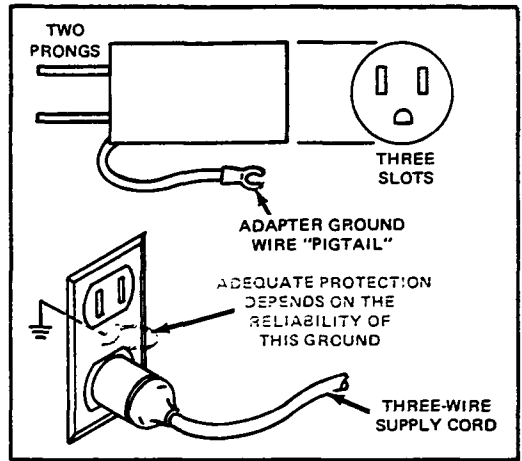

Fig. 7-10. Proper use of equipment grounding adapter.
7.40 Unfortunately, the three-wire grounding system is not foolproof because it can be ignored or evaded, and the results are accidents and injuries. A three-prong plug can be connected to a two-slot receptacle with an adapter, as shown in Fig. 7-10. The short "pigtail" wire completes the ground connection circuit. However, this pigtail is frequently ignored because it takes a little extra time and effort to connect it. Even when it is connected properly, the connection point has to be a reliable ground or protection is lost. If you use an adapter, you must connect the pigtail to a suitable ground.